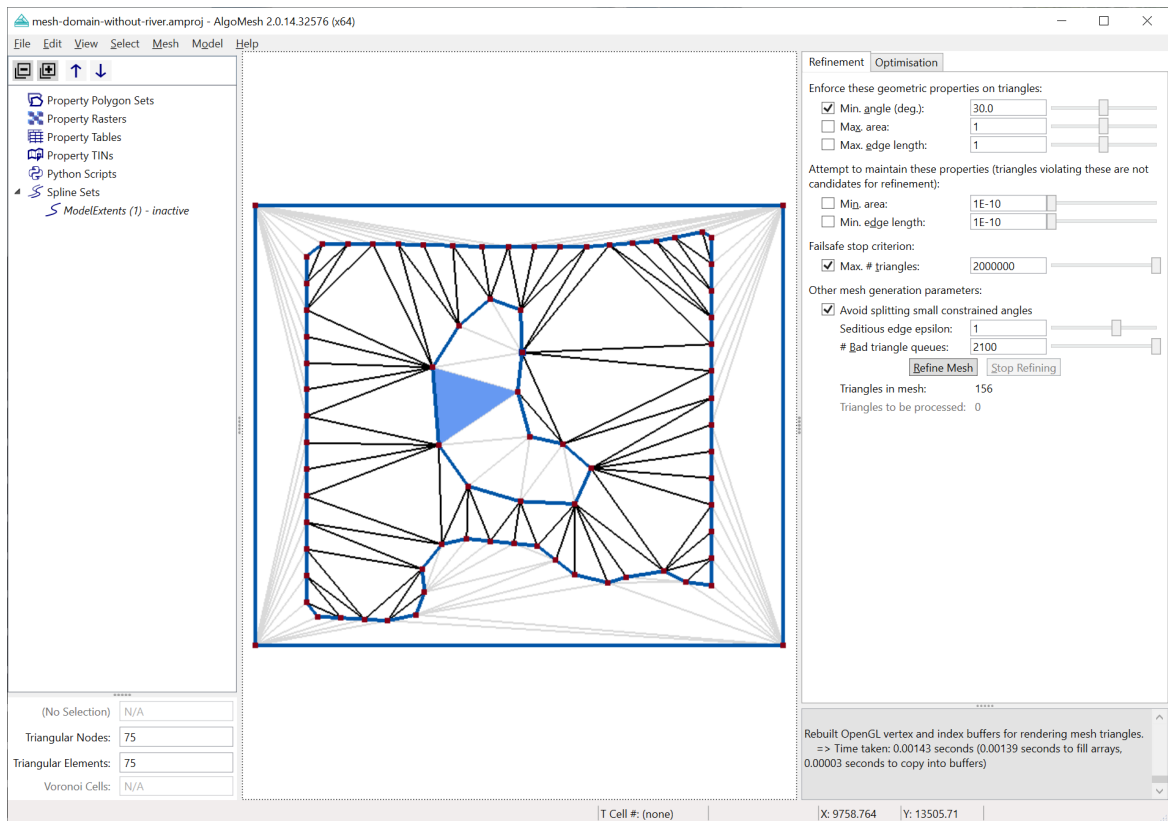

Figure 68: Pressing the '-' (minus) key with a triangle selected causes the bounded region containing that triangle to be removed from the mesh domain.
- Press the '-' (**minus**) key, or equivalently, choose the **Exclude From Mesh Domain** option from the Edit menu. The entire set of triangles inside the polygon should turn a light grey colour as in Figure 68, indicating that this area is now considered "outside" the mesh, and will not form a part of the domain for mesh generation. If you make a mistake and select the wrong region, simply select the triangle and press the '+' (plus) key.